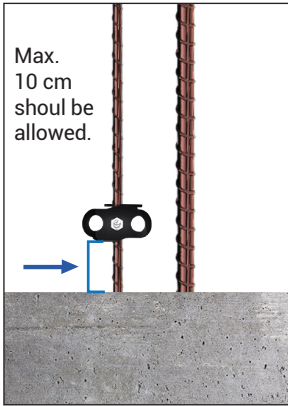

Figure -4
- » The bolt is tightened on the rebar such a way that they touch the filet tightly. (Figure-4)